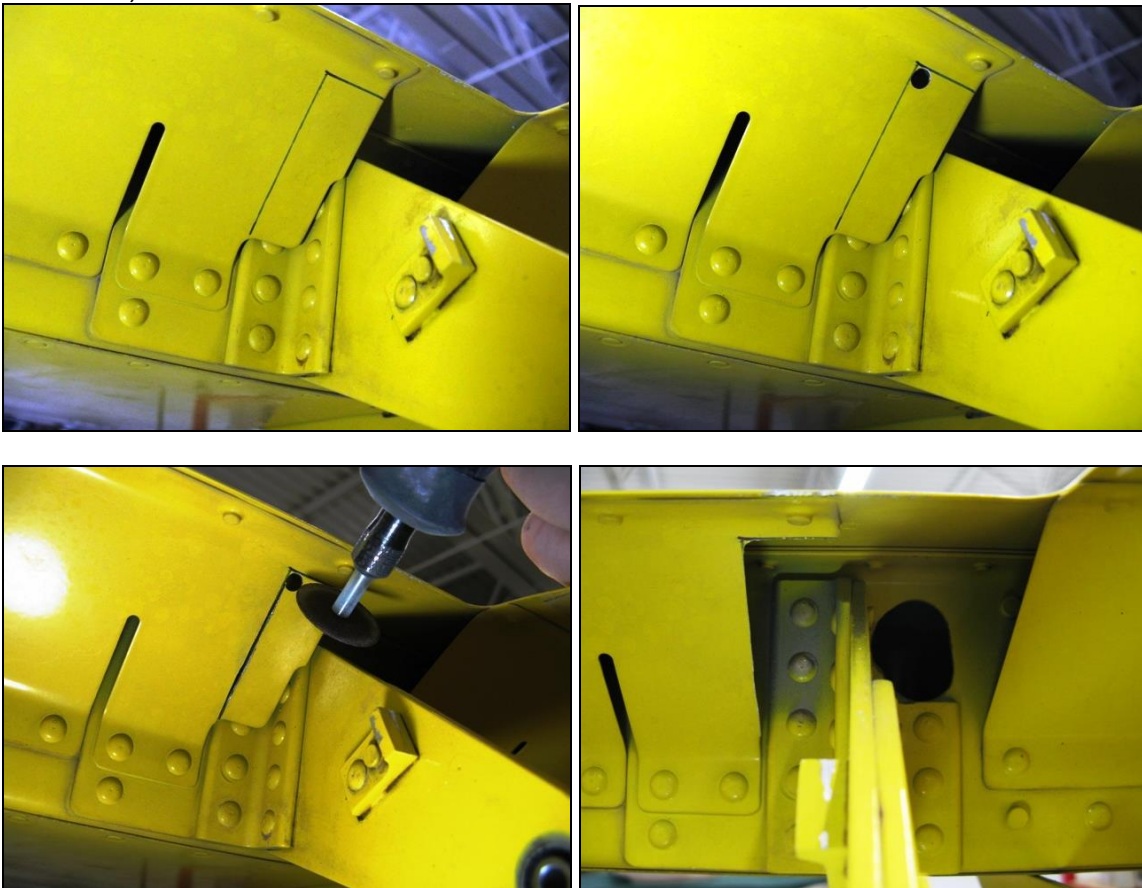

FIGURE 3: TRIMMING THE AILERON GAP FAIRING
Step 7: Remove a portion of the aileron gap fairing if it interferes with access to the rivets attaching the aileron hinge bracket to the rear spar as shown in Figure 3. Drill a 3/16 corner hole and then use a cutting disk in a die grinder or Dremel™ type tool to remove a small section of the gap fairing. (RV-10 & 14 only: When upgrading to the W-1013D, W-1013E, and W-1013FG Aileron Hinge Bracket parts, it will be necessary to remove the two bottom rivets in the tabbed portion of the aileron gap fairing. This will allow for slight trimming of the fairing adjacent to the tab to clear the wider aileron hinge bracket. Maintain a .188 in. [4.8mm] minimum edge distance between the trimmed edge and tab rivet hole.)